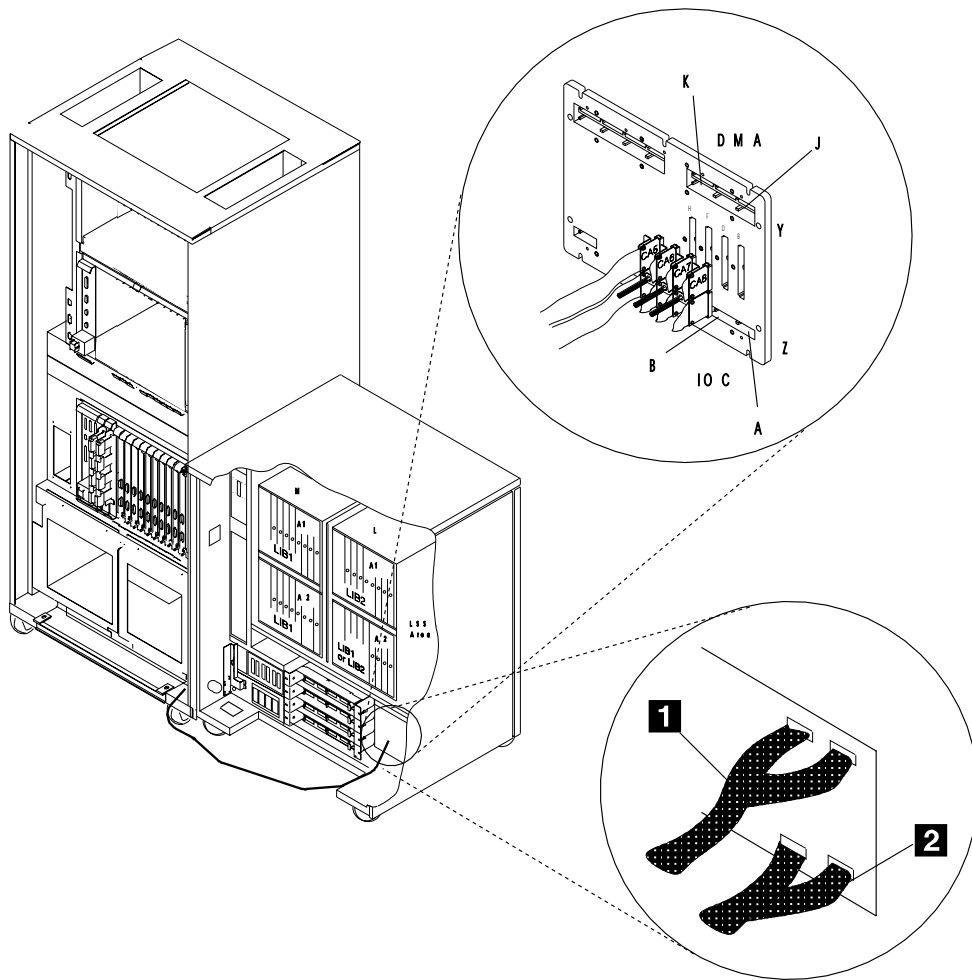

Figure 6-7. Routing of the IOC and DMA Cables
Step 3. \_\_\_\_ Locate the connector positions 01G-A1 ZB, ZA, YK, and YJ (see Figure 6-7 on page 6-8).
Step 6. \_\_\_\_ Unroll and route the IOC and DMA cables along the bottom of the 3745 and 3746-900 frames (see Figure 6-7).